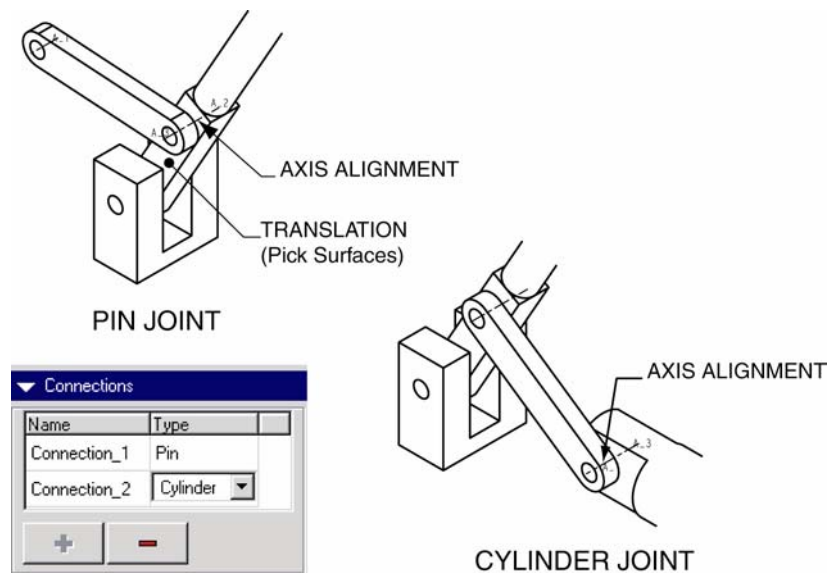

Figure 12-100: Connection Part Placement
Step 30: Use the Move tab on the dialog box to rotate the connection part to the approximate location shown in Figure 12-100.